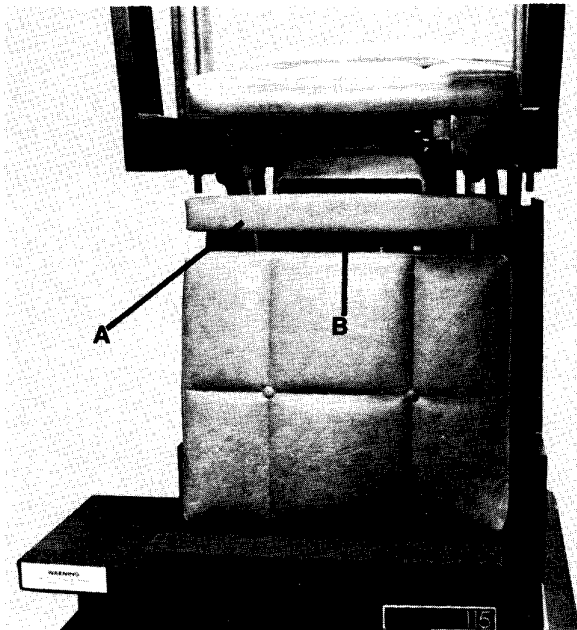

Fig. 7
- 1) Remove the upholstered filler, Item A, Fig. 7 by removing (2) screws from the underside of the filler, (1) screw at each end.
- 2) Place new upholstered filler in position, align holes, and install (2) #10-24x5/8" screws on the underside of the filler, (1) screw at each end.
THE UPHOLSTERED FILLER HAS A NOTCHOUT IN THE CENTER OF THE WOOD BASE, POINT B IN FIG. 7. THIS RELIEVED SECTION MUST BE ALIGNED WITH THE NOTCHOUT IN THE FILLER MOUNTING PLATE. FAILURE TO ALIGN NOTCHOUTS WILL RESULT IN DAMAGE TO THE UPHOLSTERY.